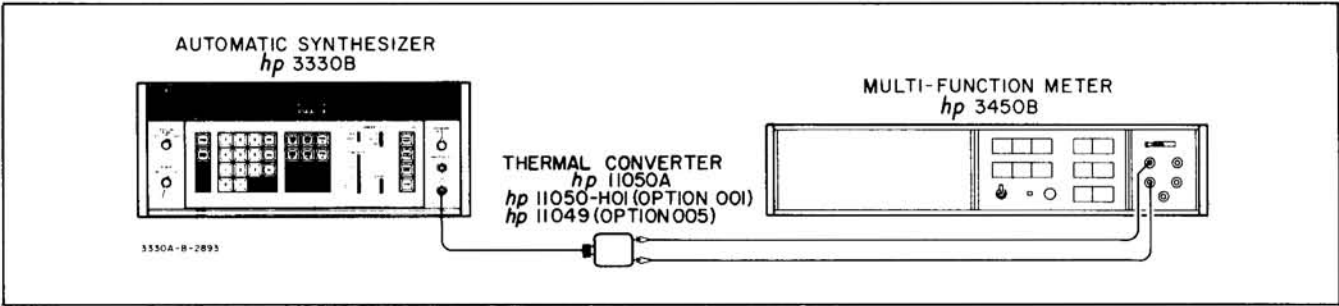

Figure 5-5. Frequency Response.
- a. Connect the equipment as shown in Figure 5-5. Be sure to use the correct thermal converter.